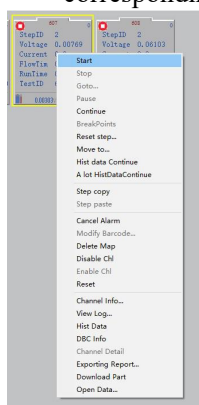

Figure 4-20 Start interface
2. On the right-click menu (as shown in Figure 4-20), you can set step parameters, record conditions, protection conditions, and professional protection parameters. When the condition is reached, the channel will perform the corresponding operation.